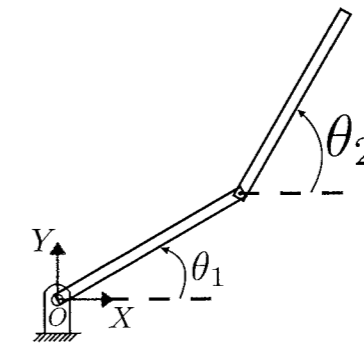

Figure 2: A 2-DOF Planar Robot with Revolute Joints
7. Tesla, Inc. is in talks with ABB to install a 2-DOF planar robot with revolute joints in its battery gigafactory coming up in India. One of the requirements given by Tesla to ABB is that the robot must be able to follow a straight line from an initial position (3,5) to the final position (7,13) in its motion segment. As a robotics engineer in ABB you have been asked to determine the joint angles of the robot for each of the coordinate points if the path is divided into 4 segments. Each link of the robot shown in Figure 2 is 12 m long. NOTE: You must show two sample calculations to receive full credit. (10 Marks)